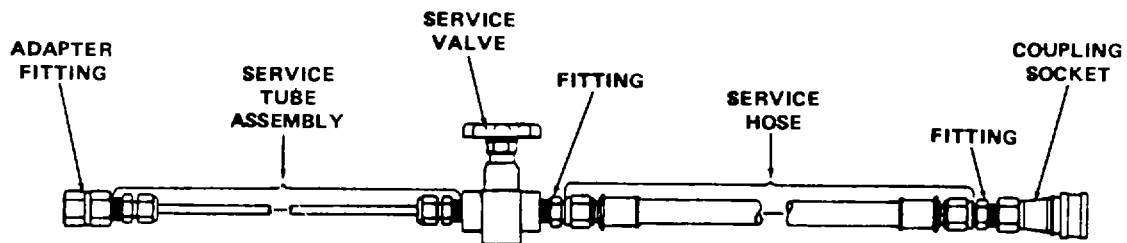

Figure 6-58. Service Hoses and Fittings
- (1) Connect air hose to air pressure source rated at 4375 PSI.
- (2) Apply 3500 PSI to air hose.
- (3) Inspect for leaking fittings and damaged hose.
b. Repair Air Hose. Repair air hose. (Figure 6-58)
- (1) Replace all damaged or defective components.